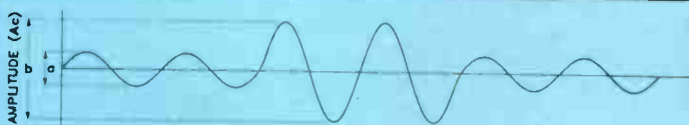

Figure 3(a). A sine wave with amplitude modulation. The two levels of amplitude (a and b) represent the binary 0 and 1. The frequency remains constant.
The amplitude, or level, of the carrier ( $A_c$  in the above formula) is modulated according to the digital input (see figure 3(a)). In a simple form, the value of  $A_c$  can be 0, or some constant  $K$ , giving a wave shape as in Figure 3(b). In more complex situations, several levels of amplitude modulation are possible; four levels [Figure 3(c)] will allow twice as much information to be sent in the same elapsed time. Amplitude modulation is not often used by itself due to transmission power problems and sensitivity to distortion.
Figure 3(b). The simplest type of amplitude modulation (AM). Here the amplitude is either 0 (represents binary 0) or "a" (represents binary 1). The corresponding digital waveform which modulates the wave is also shown.
Figure 3(c). This shows more complex AM — here, four levels of amplitude are used, each level represents two bits. This allows twice as much data to be transmitted than with only two levels.